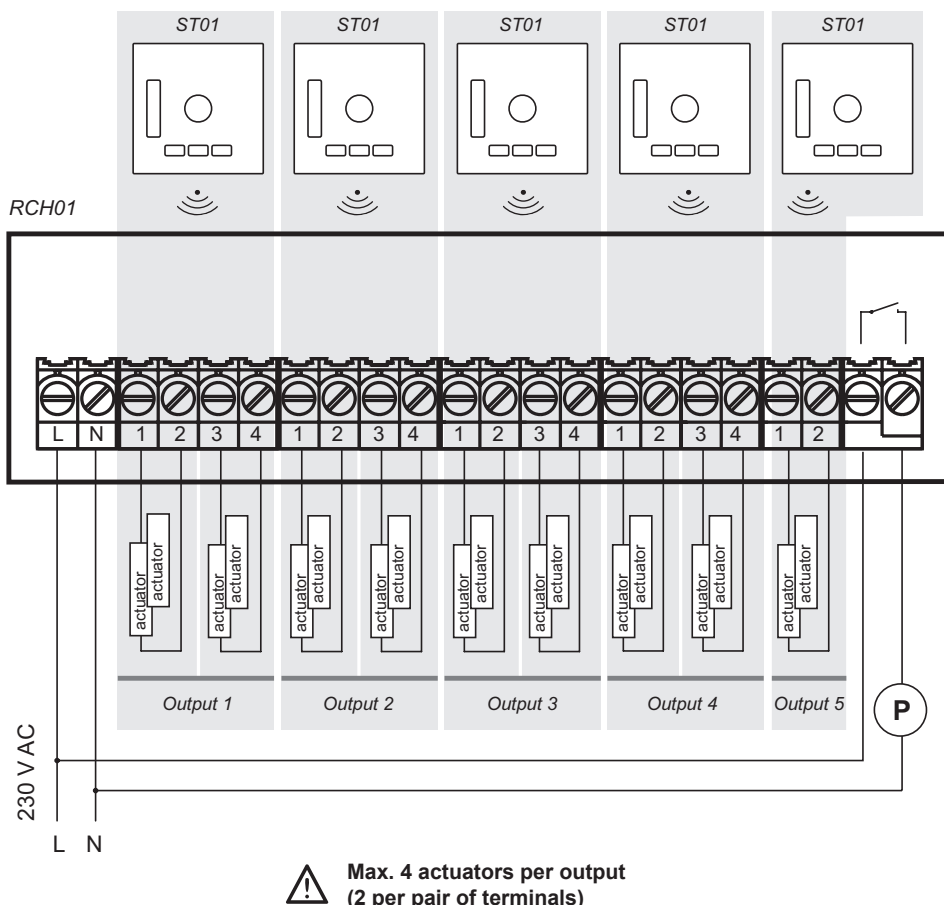

Fig. 1 Connection diagram
5. Connect the cable for the power supply, actuators and pump as per connection diagram, Figure 1.